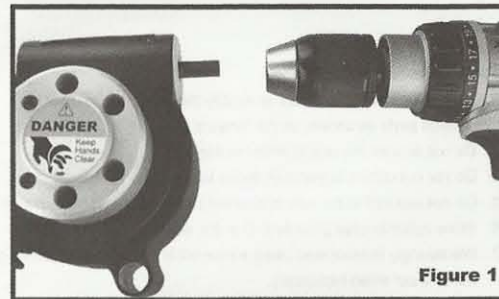

Figure 1
**STEP 1:** Attach cable cutter drive shaft to drill as shown(Figure 1). Tighten drill chuck securely.